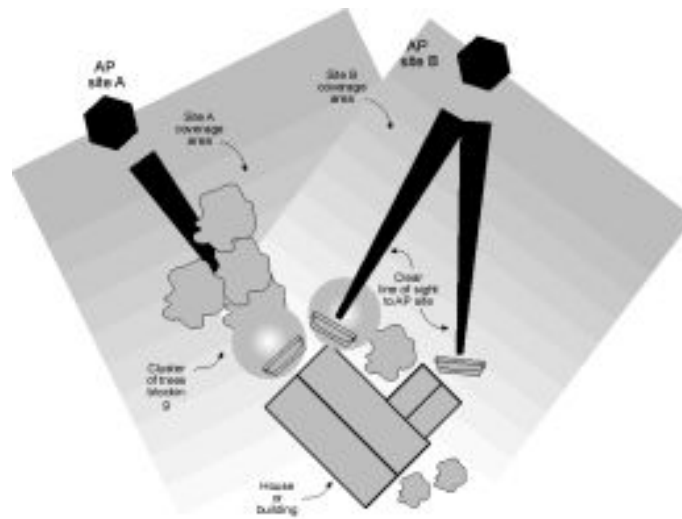

Figure 4-3 Selecting an Access Point
- 1) Using the compass bearings you wrote down in the previous section, walk around your building to find a suitable path to mount your outdoor transceiver – see Figure 4-3.
You should mount your outdoor Customer Premise Equipment as high as possible on your building, and align it to the compass reading you have just taken. For example, the previous Figure 4-3 shows the path to Access Point A obstructed by a cluster of trees. However, there are two possible mounting locations for the outdoor Customer Premise Equipment giving a clear line of sight to Access Point B.